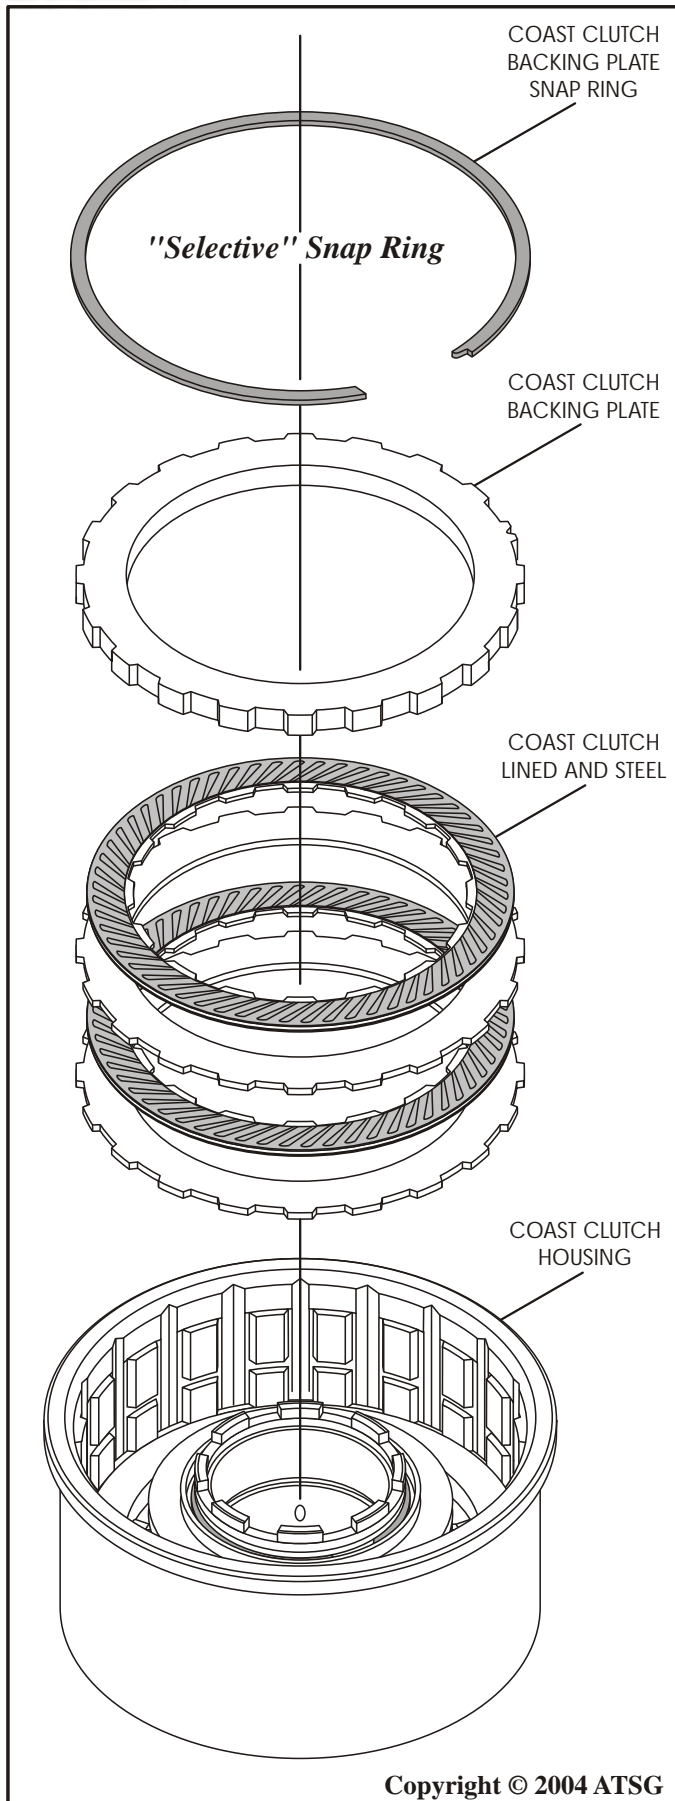

Figure 70
14. Install the friction and steel coast clutch plates into the coast clutch drum, beginning with a steel plate and alternating with a friction plate, until you have installed two of each, as shown in Figure 70.
- CAUTION:** *Coast Clutch friction plates are directional and must be installed with the grooves facing clockwise, as shown in Figures 70 and 71. Friction plates should be soaked in Mercon® V for at least 30 minutes before installation.*
15. Install the coast clutch backing plate, as shown in Figure 70.
16. Install the coast clutch backing plate snap ring, as shown in Figure 70 and ensure that it is fully seated in the groove (See Figure 70).